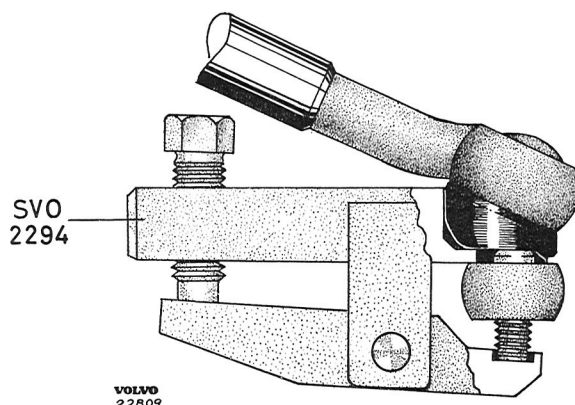

Fig. 2-20. Removing steering rod
3. Remove the lower nuts for the engine mounts. Remove the steering rods from the pitman arm and relay arm with tool 2294 according to Fig. 2-20.